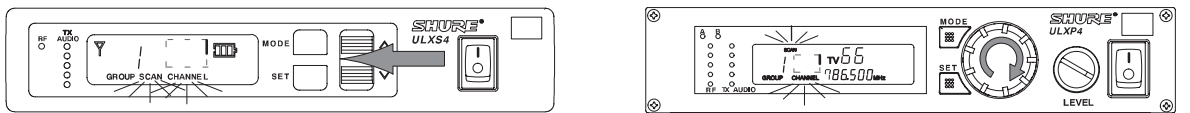

FIGURE 10
- Press the  $\uparrow$  or  $\downarrow$  buttons (ULXS4) or rotate the control knob (ULXP4) clockwise one quarter turn. The next open Channel number will appear on the display, as shown in Figure 10.